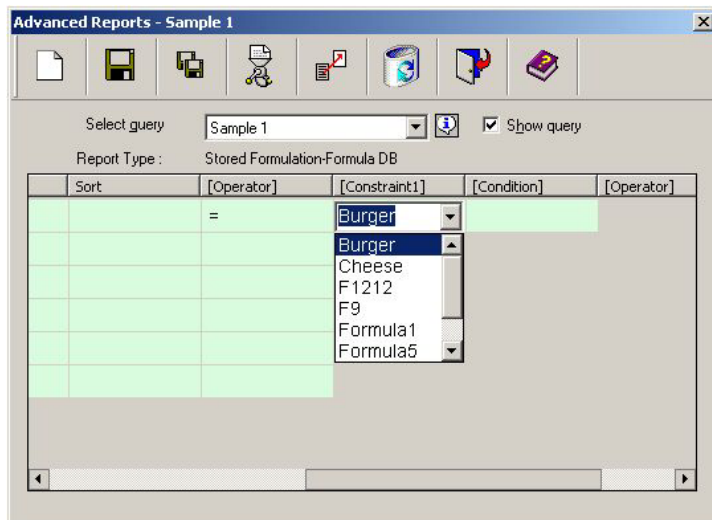

Figure 3
- In **Formula Name** row select the '=' operator in operator column and in constraint1 column select the desired Formula Name. Refer Fig 3.